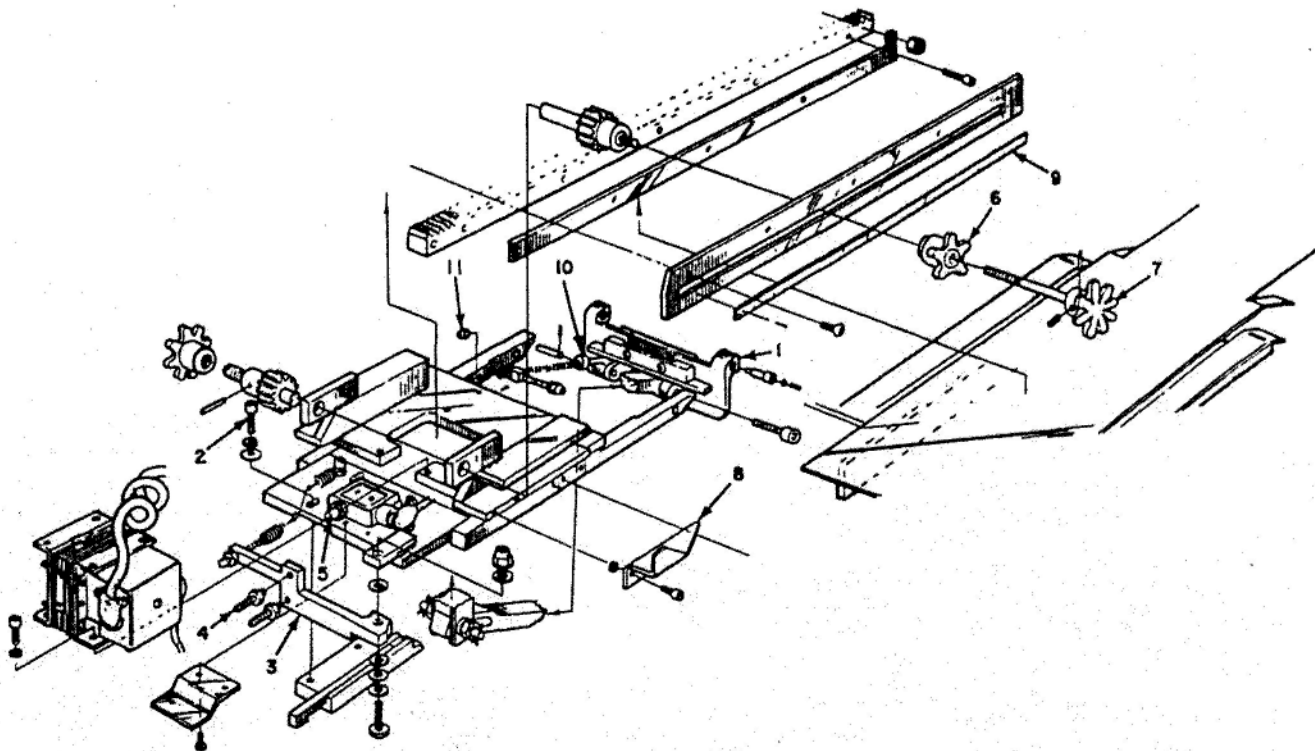

Figure 23 - Target Mechanism
Target plate (1), Figure 23 should be in a vertical position when it is pushed toward rear of trip gauge as far as it will go. If the target plate is not in the position as described above, loosen screws (2) and slide stop block forward or backwards to achieve this setting.
2. Check to insure target plate (1), Figure 23, returns to its original feeding position. Be sure there are no foreign objects between the target and the table.